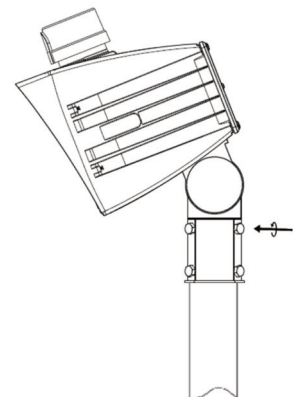

Fig. 8
- 2.) Tighten the four (4) M8 bolts on the slipfitter and secure it to the pole (see Fig. 8).